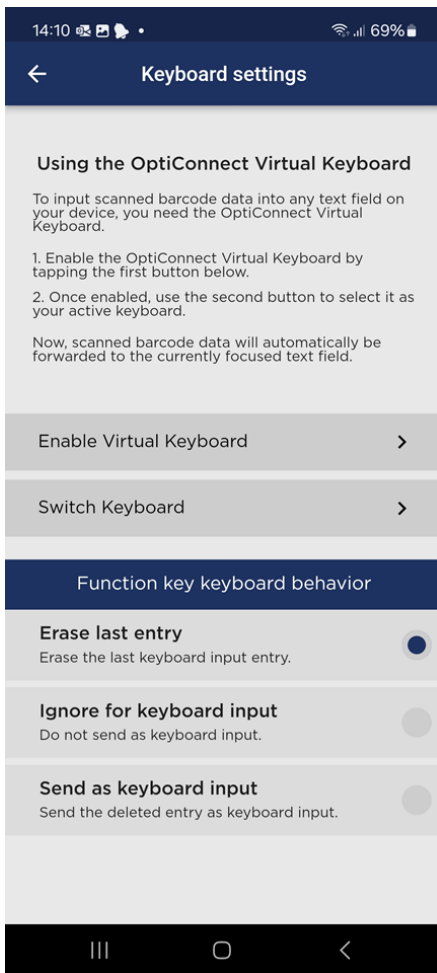

Figure 9-1: The *Keyboard settings* page to setup the OptiConnect Virtual Keyboard.
- Open the OptiConnect settings page and navigate to the *Keyboard settings* page (see Figure 9-1).